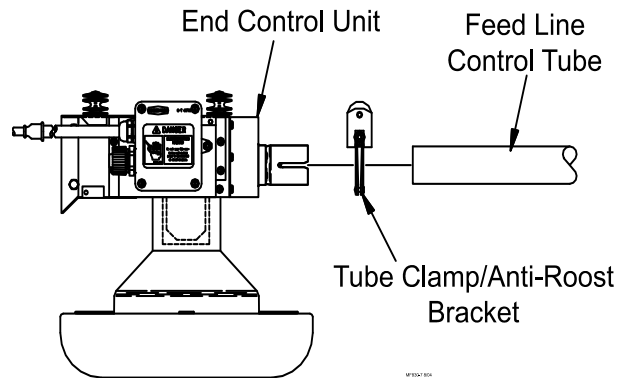

Figure 36. Connecting End Control Unit to the Feeder Line Tube
1. Assemble the End Control Unit to the Feeder Line Control Tube using a clamp/anti-roost bracket. See **Figure 36. DO NOT INSTALL THE POWER UNIT AT THIS TIME.**